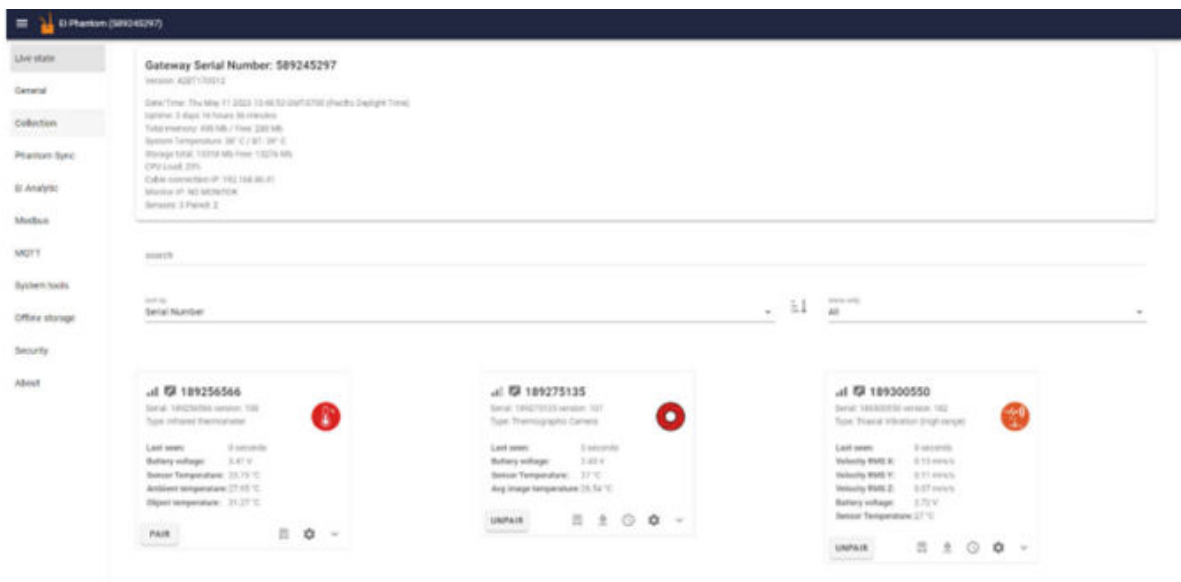

Figure 7. Pairing sensors with the Erbessd “Live State” web page menu
6. Pair Phantom Sensors to the Gateway using the gateway web page “Live State” menu. Click the Pair button before configuring the sensor in InsightCM (see Figure 7).